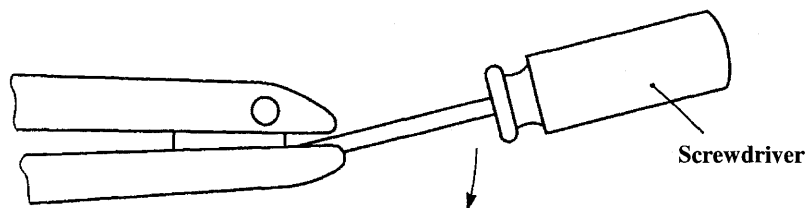

Fig. 1
- (1) Fine adjustment of the crimp height cannot be performed with the manual crimping tool. In case the cable to be used is different from the specified one, the cable is not applicable to the tool even when the cable is in the range of applicable cable for the contact.
- (2) Never crimp any material other than applicable contacts and applicable cables given in this Instruction Manual.
- (3) Never apply any physical impact to the tool by tapping or dropping from an elevated place.
- (4) The handle cannot be opened before releasing the ratchet. Forcibly opening the handle is strictly prohibited since doing so can cause the tool to break down.
- (5) If applying an extra load to the handle continuously after the ratchet is released, the handle may sometimes remain closed and fail to open. In this event, put a screwdriver or the like in the handle to open it as shown in Fig. 1.
- (6) If the tool is defective, do not disassemble it but contact us for repair while showing the detailed description of the defect.